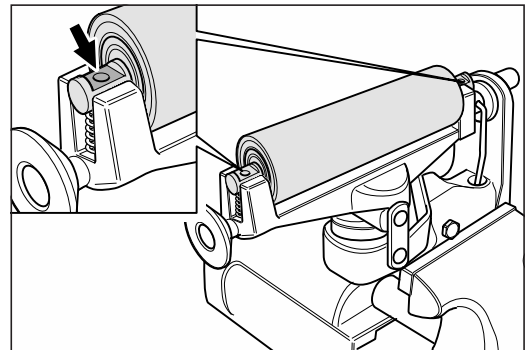

Fig. 58 Insert the new tensioning roller, ensuring that the surfaces on the shaft ends are pointing upwards.
- 6 Insert the compression spring and the tensioning roller. Ensure that the surfaces on the shaft ends of the tensioning roller are pointing upwards (fig. 58)!